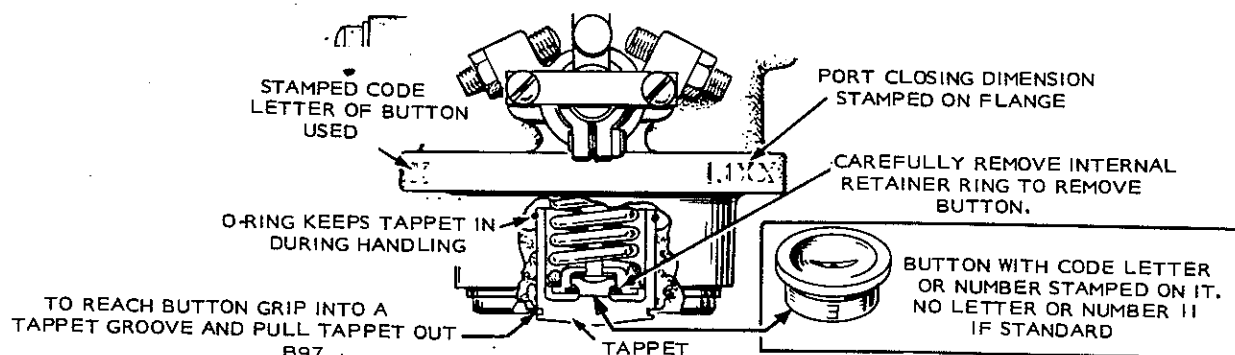

FIGURE 9-11. INJECTION PUMP BUTTON INSTALLATION
When removing the pump for replacement, record the button thickness and port closing dimensions stamped on the side of the pump mounting flange, Figure 9-11. These values are important in timing the new pump to the engine.
Install the correct button in the pump (Figure 9-11) and install the pump following the instructions under *Injection Pump Installation*.
6. Remove pump and insert proper timing button, Figure 9-11.